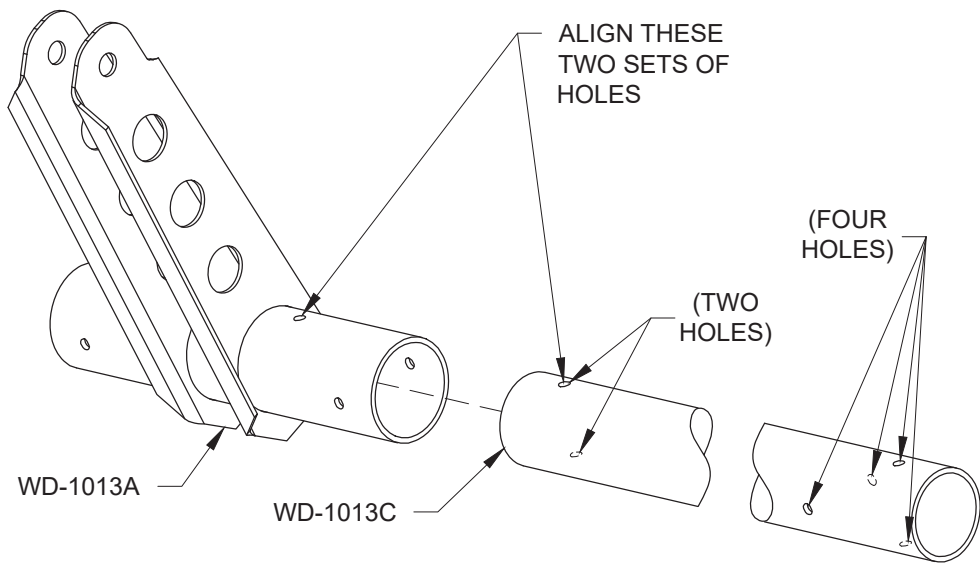

FIGURE 2: ASSEMBLE FLAP CRANK
Step 2: Slide a **WD-1013C** Flap Torque Tube into the **WD-1013A** Flap Crank and align them by using the pre-drilled holes as shown in Figure 2.